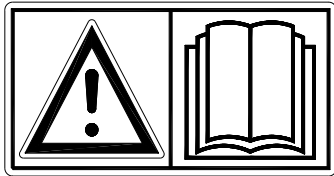

Figure 1
**Read and understand** (Figure 1) the manual *before* you start using the Verti-Comb.